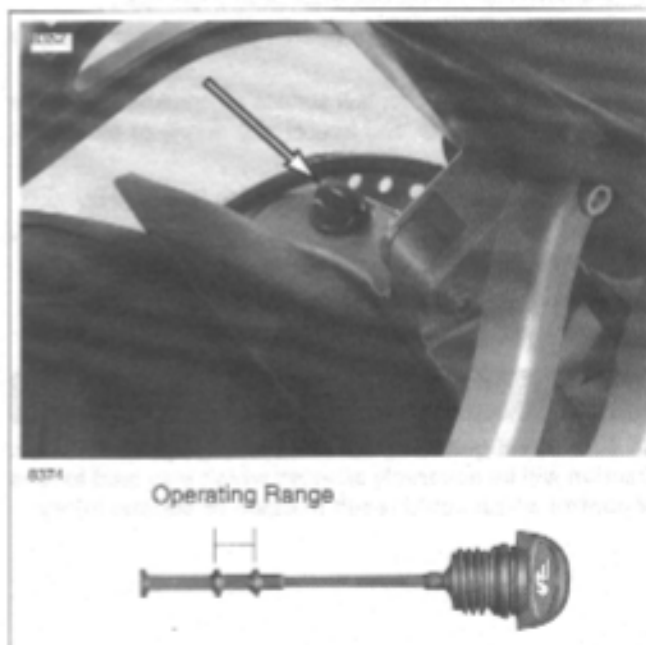

Figure 1-4. Dipstick Location/Engine Oil Level
- See Figure 1-4. Unscrew and remove dipstick from oil tank/swingarm filler hole. Wipe dipstick clean.
- See Figure 1-4. Unscrew and remove dipstick and note oil level.
3. See Figure 1-4. Unscrew and remove dipstick from oil fill hole on top of oil tank/swingarm.